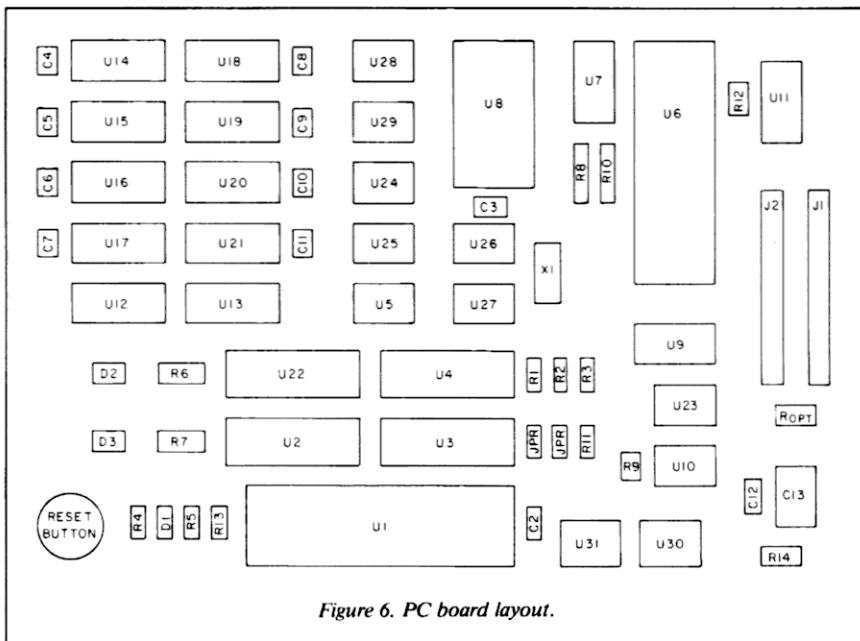

Figure 6. PC board layout.
dition. Instead of leaving the three J1 lines floating, however, you should tie them to the appropriate levels for proper computer operation. Tie the J1-23 line to ground, and tie the J1-25 and J1-28 lines together and to a 1K ohm resistor (ROPT in Fig. 6) which goes to the + 5 volt (V) supply.